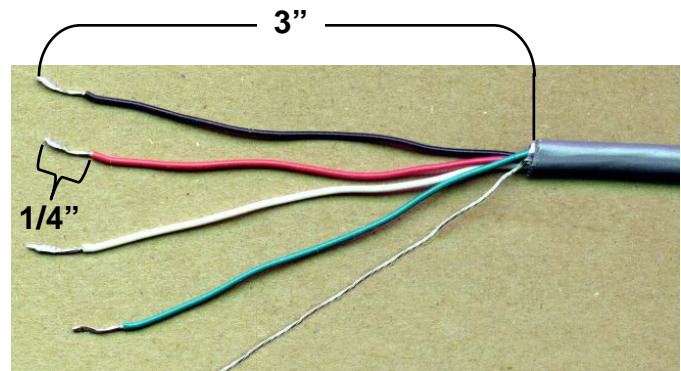

Figure No. 11
4. Referring to Figure No. 11, remove 3 inches of the outer insulation jacket of the load cell cable.